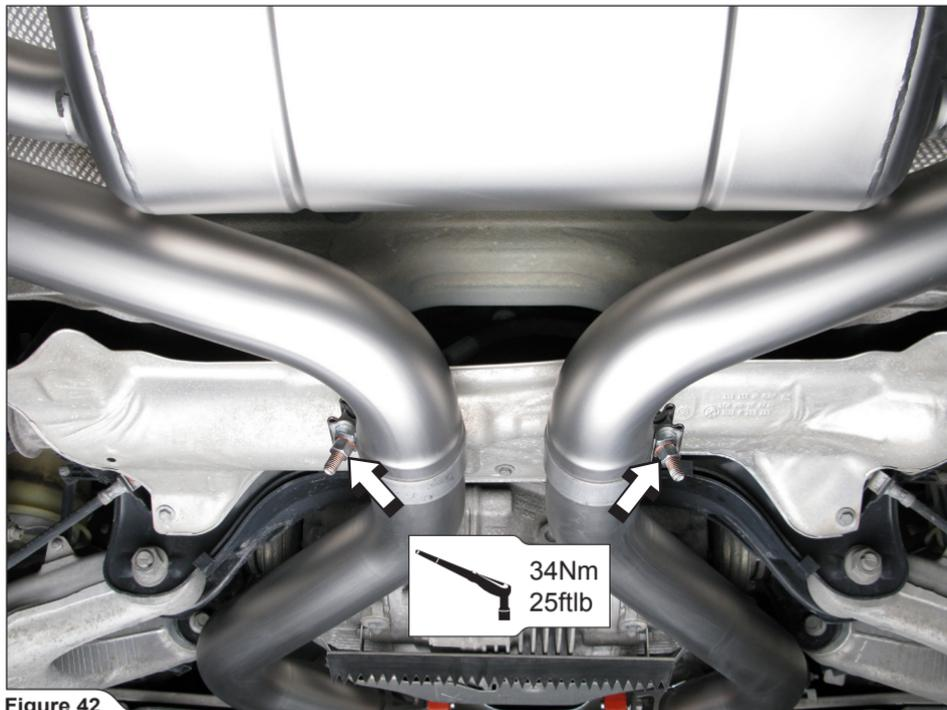

Figure 42
20. Push the collector and muffler pipes together, adjust the clamps and tighten them to a specified torque (**Figure 42**).